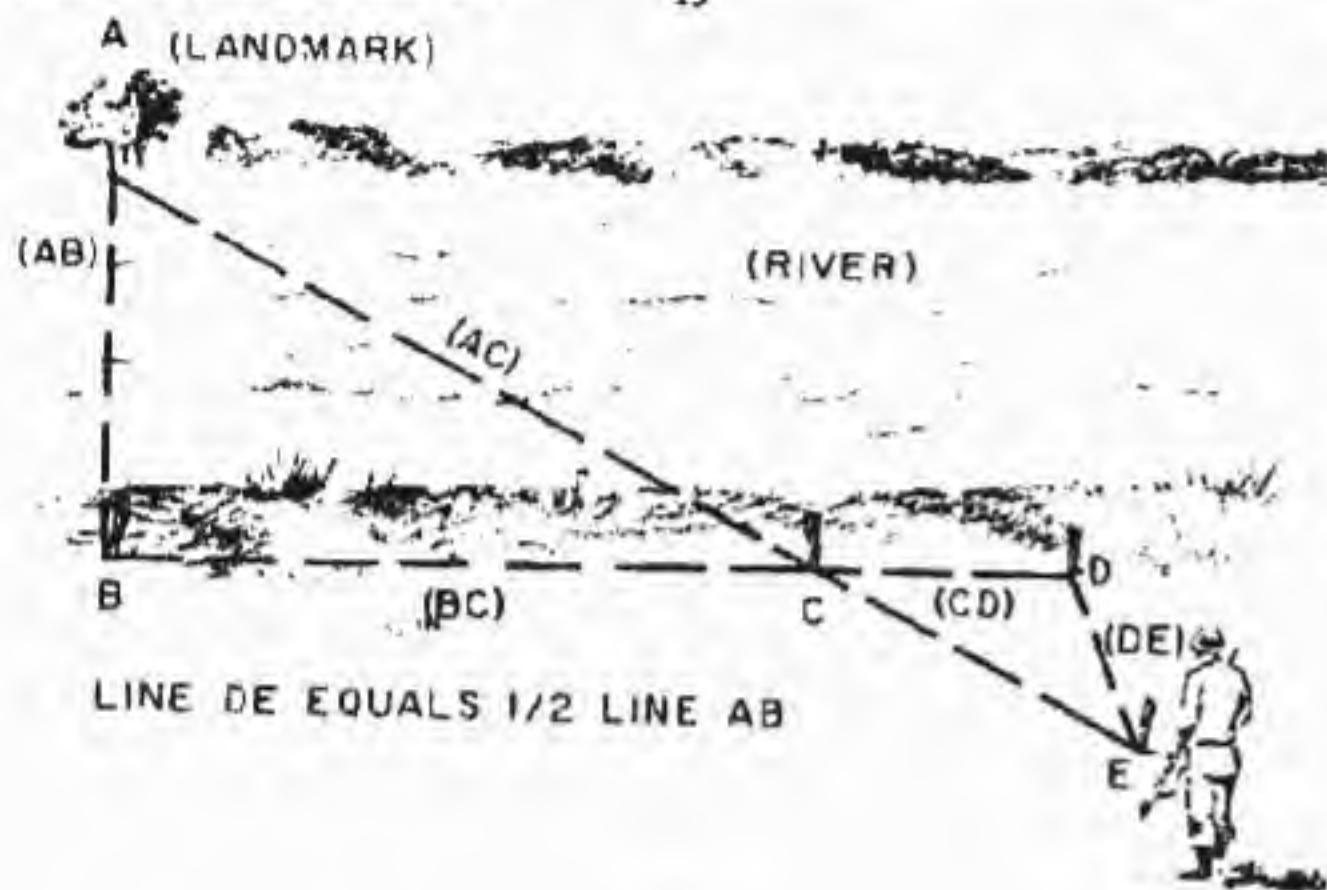

Figure 4
1. PACE-MEASURING METHOD (Figure 4)